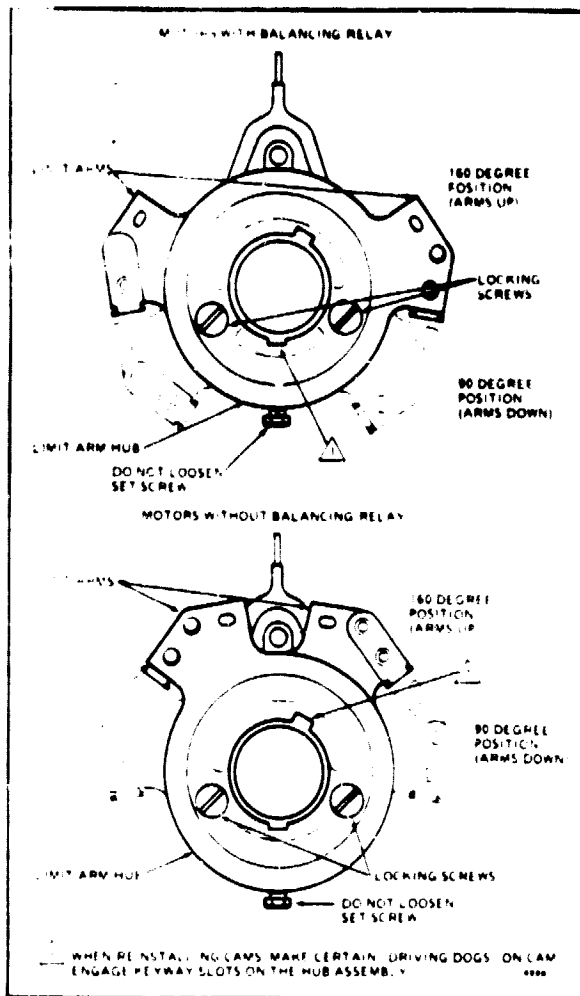

FIG. 6—CHANGE THE POSITIONS OF THE LIMIT ARMS TO ADJUST THE MOTOR STROKE.
bSee Figs. 6, 10, and 11.
Step 1- Run the motor to approximately midstroke. Stop the motor by removing power to it. Remove the auxiliary end cover from the motor by taking out the 4 screws securing it. Be careful not to lose the washers (2) and spring on the motor shaft (M941C and D). Remove the switch cam assemblies (M941C, 1; M941D, 2; M941A and B have no switch cams).
Step 2- Loosen the 2 locking screws on the limit arm hub. (See Fig. 6.)